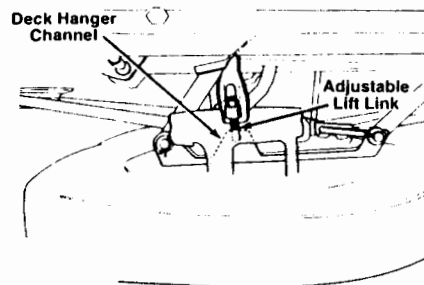

FIGURE 5
2. Pull the adjustable lift link out of the deck hanger channel. See figure 5. Turn the adjustable lift link up or down as necessary to level the deck. Usually only one or two turns are needed.